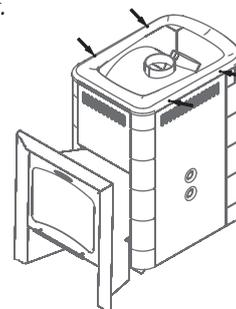

Figure 8. Disassembling of «Angara 2012» bath stove convector frame
1. Remove the convector frame by unscrewing 4 self-drilling screws (fig. 8);